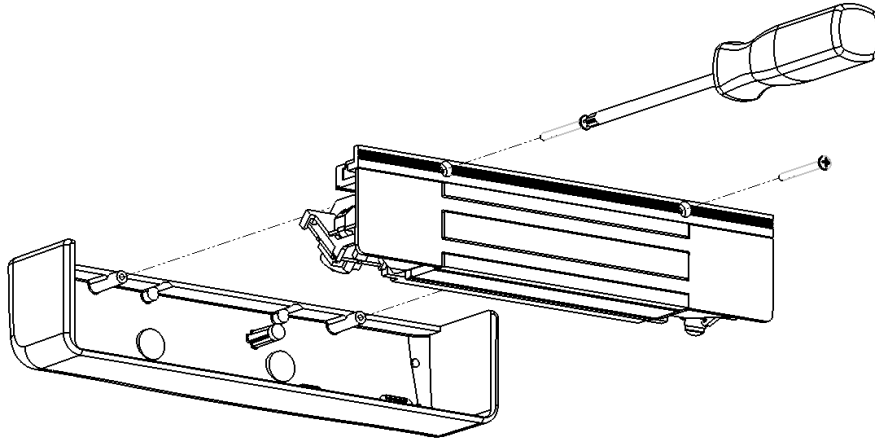

Figure 1. Removing the Cover Screws
1. Using a Phillips screwdriver, REMOVE the two (2) screws securing the cover, as shown in Figure 1, “Removing the Cover Screws.”